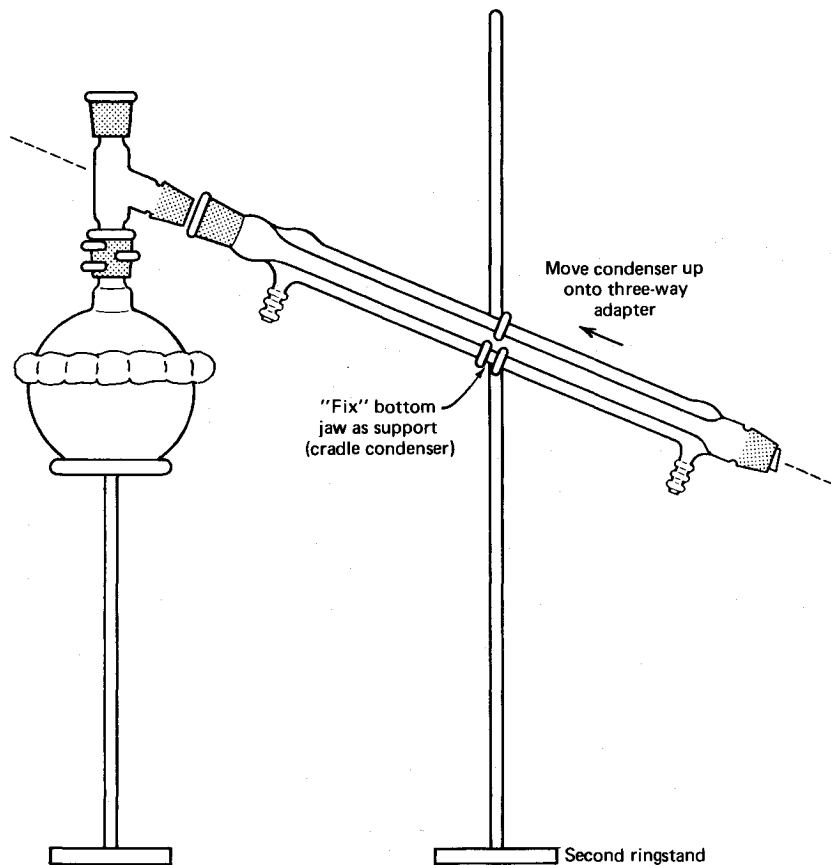

Fig. 70 Clamping the condenser without arthritic joints.
6. Place the two-prong clamp jaw in line with the condenser. Attach the condenser to the three-way adapter (Fig. 70). Hold everything! Sure. OK, *loosen extension clamp holder thumbscrew*, turn clamp to correct angle, and tighten. Now the height — up just a bit — Good! The lower “fixed” jaw cradles the condenser. *Tighten the ringstand thumbscrew (Arrrgh!) Clamps tend to move up ever so slightly as you tighten the fastener on the ringstand.*
7. Bottom jaw supports condenser—check. Joint at the three-way adapter/condenser OK? Good. Tighten wing nut and *bring the single-prong jaw down onto condenser* (Fig. 70). Not too tight.